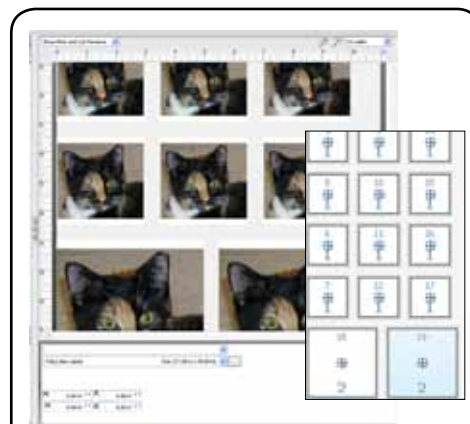

Fig. 28 - Template layouts will automatically create and position copies, including any scaling or rotating.
- **Template Media Layouts** – Create custom page layouts that will automatically place jobs at specific positions upon the media (Fig. 28). Templates can automatically scale, rotate, and create copies. Copies can be scaled and rotated on an individual copy basis.